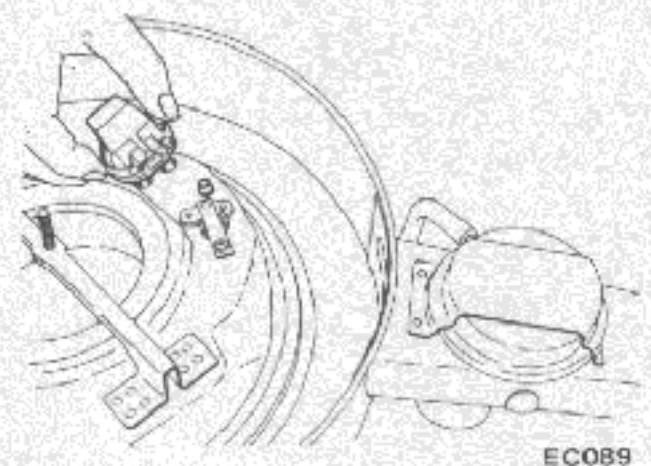
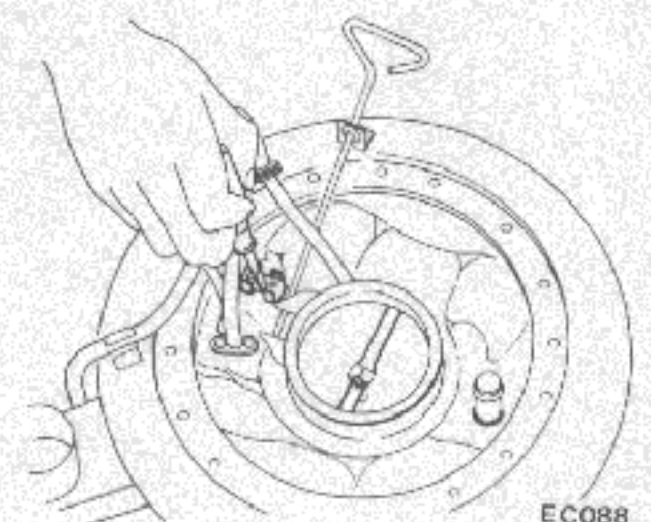

Fig. EF-7 Installing sensor
Fig. EF-8 Inserting clip
1. Install sensor and gasket assembly in the proper positions. See Figure EF-7.
2. Insert clip. Be sure to hold sensor at its correct position in Figure EF-7 to avoid damage. See Figure EF-8.